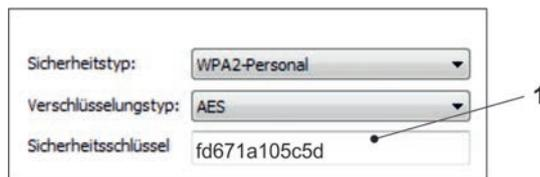

Fig. 26-19 Enter security key and connect
4. Enter security key (password) (delivery status = PUK; here fd671a105c5d as example) (Fig. 26-19 Pos. 1) and connect.